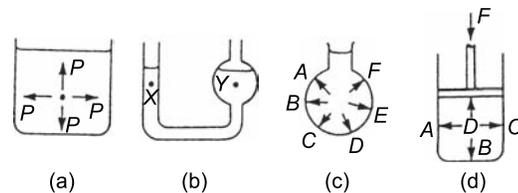

Figure 22.1
- (a) The pressure at a given depth in a fluid is equal in all directions; see Figure 22.1(a).
- (b) The pressure at a given depth in a fluid is independent of the shape of the container in which the fluid is held. In Figure 22.1(b), the pressure at  $X$  is the same as the pressure at  $Y$ .
- (c) Pressure acts at right angles to the surface containing the fluid. In Figure 22.1(c), the pressures
- (d) When a pressure is applied to a fluid, this pressure is transmitted equally in all directions. In Figure 22.1(d), if the mass of the fluid is neglected, the pressures at points  $A$  to  $D$  are all the same.